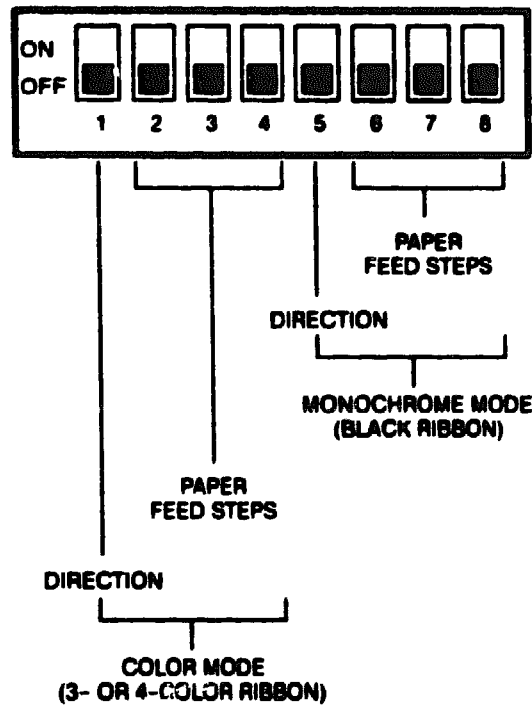
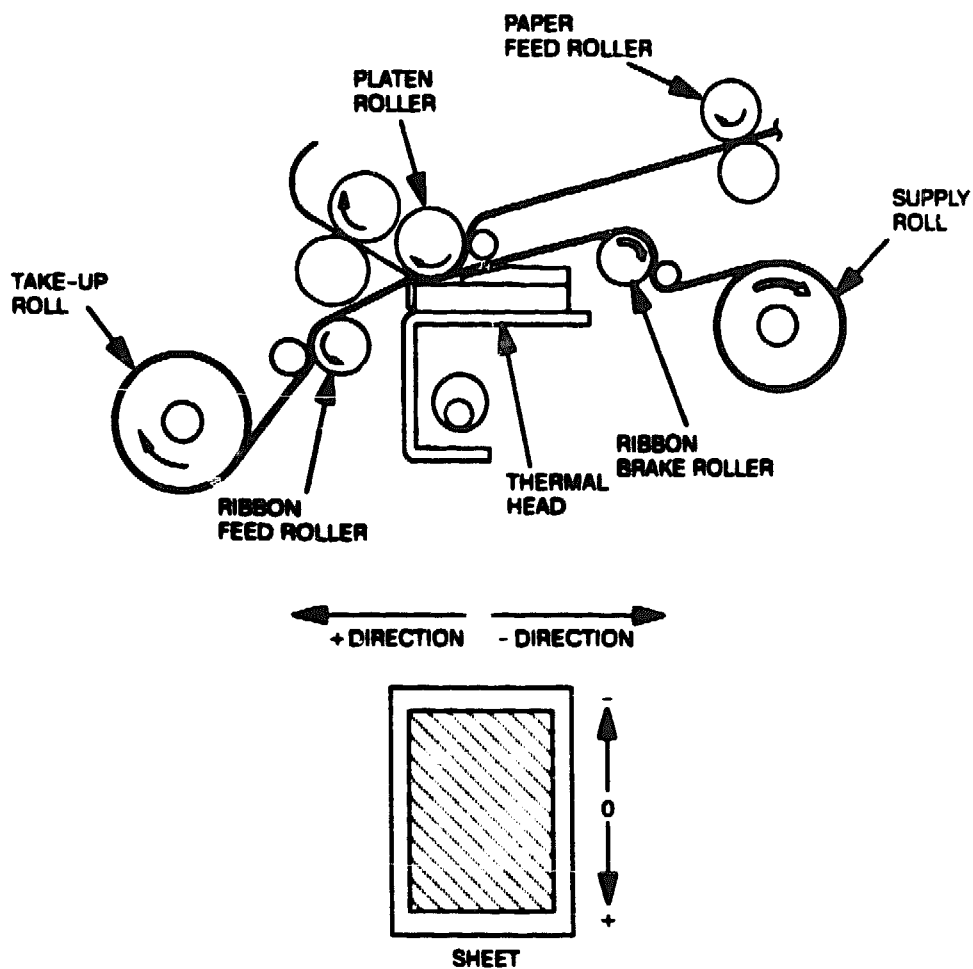

Figure 3-5 SW2 Functions
Figure 3-6 Direction of Initial Paper Feed Steps
SW2 DIP factory switch functions are shown in Figure 3-5. SW2 switch segments 1 through 4 are used to correct the amount of initial paper feed steps in color mode (when a 3- or 4-color ribbon is being used), while segments 4 through 8 perform the same function in monochrome mode (when a black ribbon is being used). See Table 3-3 and Figure 3-6 for information on adjusting the number of paper feed steps, which is basically a method for adjusting the top-of-form. This adjustment feature allows you to vertically shift the entire printable area on the sheet or transparency and adjust the position (up or down) of the printed image. Among other purposes, this feature provides a temporary solution to top-of-form problems that may develop due to worn out paper feed rollers.
• = Direction of correction (see Figure 3-6).